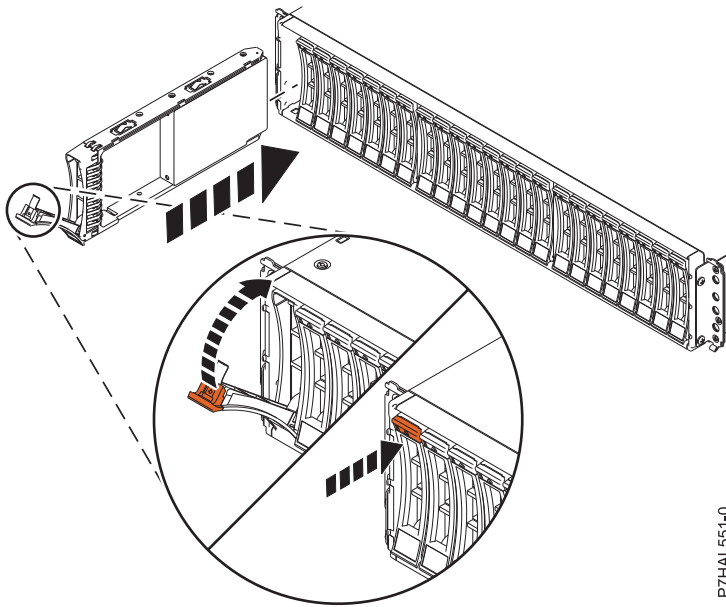

Figure 16. Installing or replacing the disk drive in the storage enclosure
3. With the handle in the unlocked position, as shown in Figure 16 on page 14, support the bottom of the drive as you align it with the guide rails in the expansion unit.
8. Lock the drive by rotating the bay handle (A) in the direction that is shown in Figure 16 on page 14.